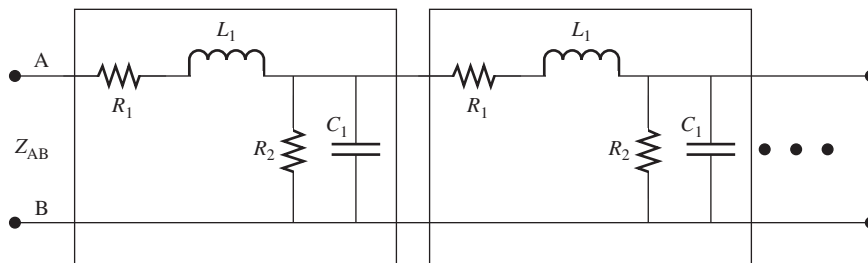

FIGURE P6.31 Circuit for Problem 6.31.
- 6.31 (H) Find the impedance, Z_{AB} , as seen from terminals A and B in the circuit shown in Figure P6.31.